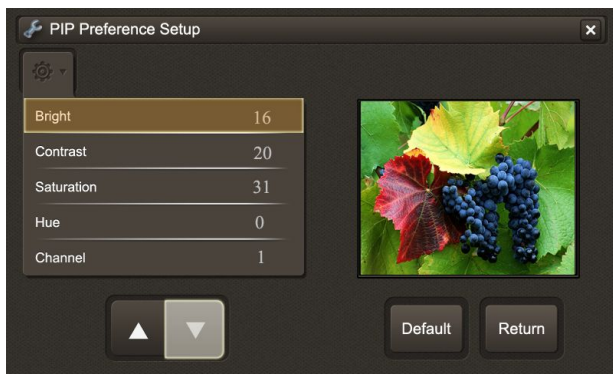

Figure 2-7
3. Select the options to modify, click upper and lower button below to modify (as shown in Figure 2-7).